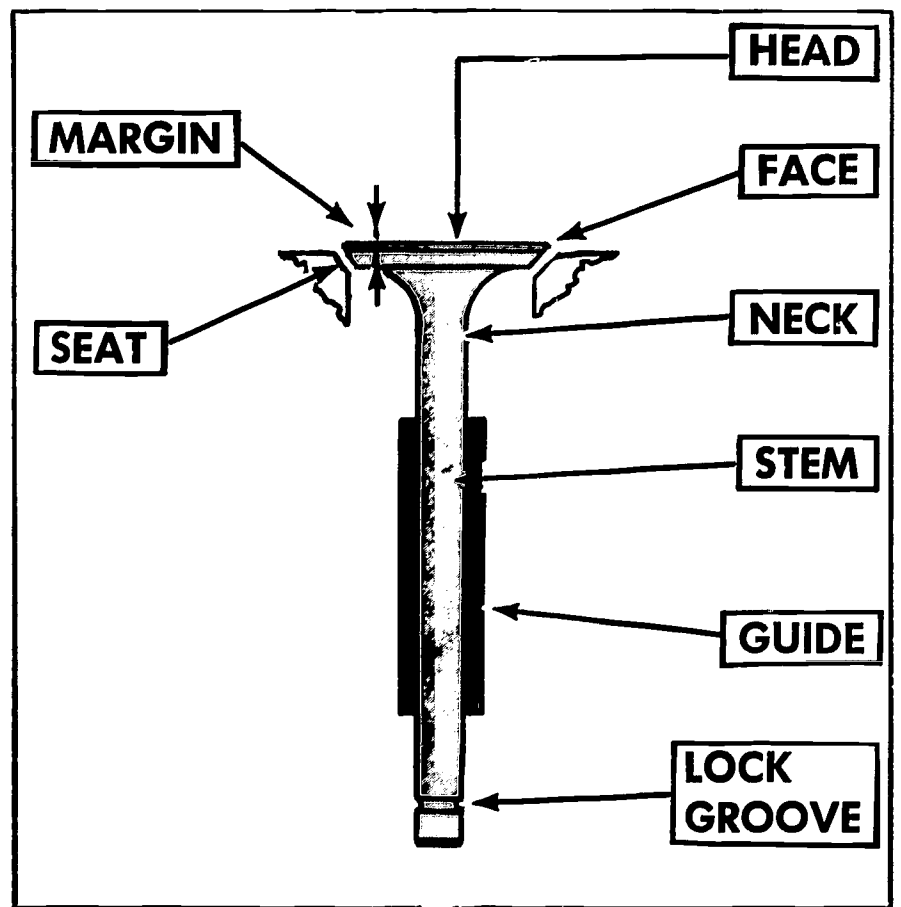

FIGURE 197. Wearing parts of a valve.
1. Inspect the valve head (Figure 197).